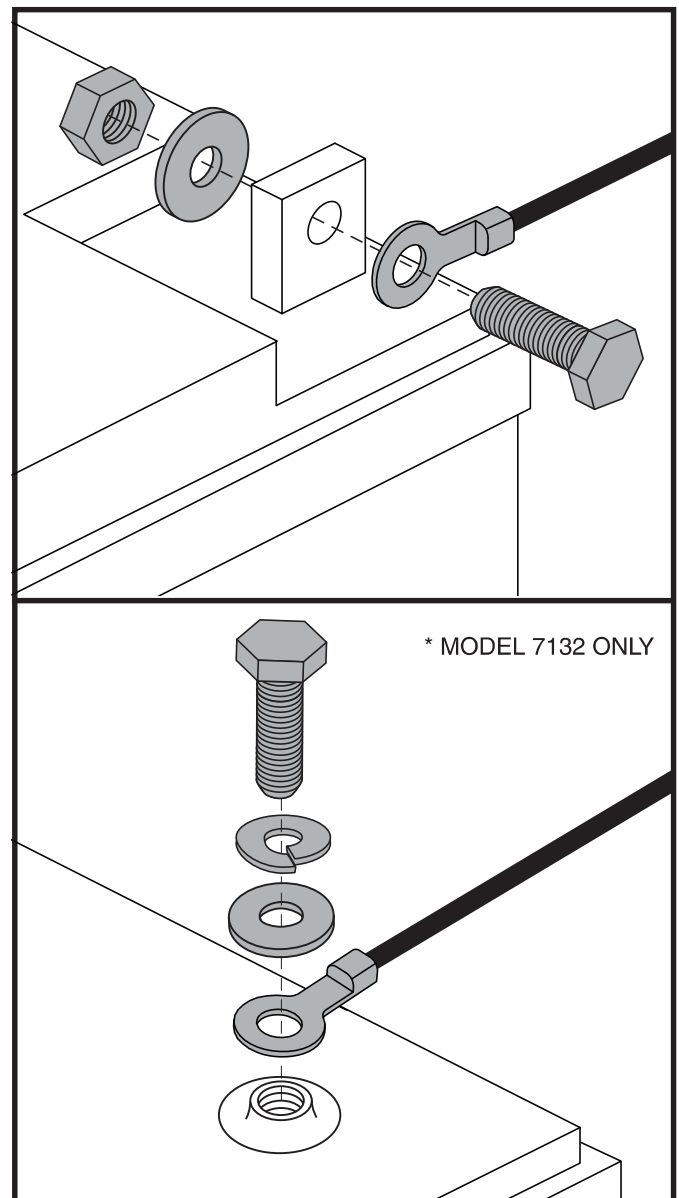

Figure 16. Battery Terminal Hardware
4. Disconnect the battery cables from the battery terminals by sliding back the terminal boots and unscrewing the nut from the bolt. See figure 16.
WARNING! When faced with an emergency situation, the batteries can be quickly disconnected by pulling **FORWARD** on the emergency battery disconnect strap. Use caution. Be advised that turning off power to the scooter may cause the scooter to stop abruptly. To release the emergency stop and restore driving capability to the scooter, remove the seat and battery shroud, and reconnect the battery connector as shown in Figure 16.